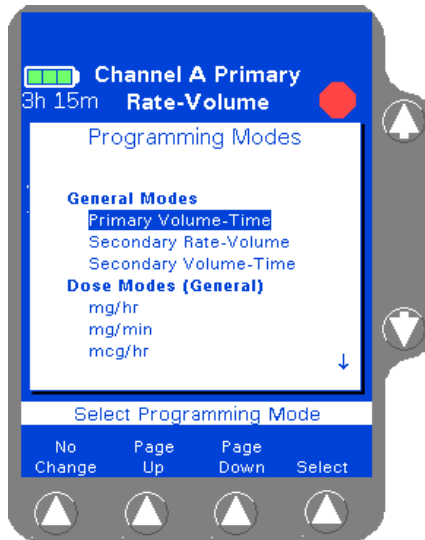

Figure 4-97 Programming Modes Menu
2. Press the **Change Mode** soft key. The Programming Modes menu is displayed (Figure 4-97).